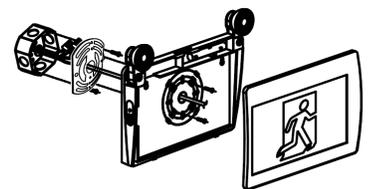

Fig. 6
- a) Pull wires through junction box mounting plate then connect junction box mounting plate to the junction box with screws (Fig. 6).